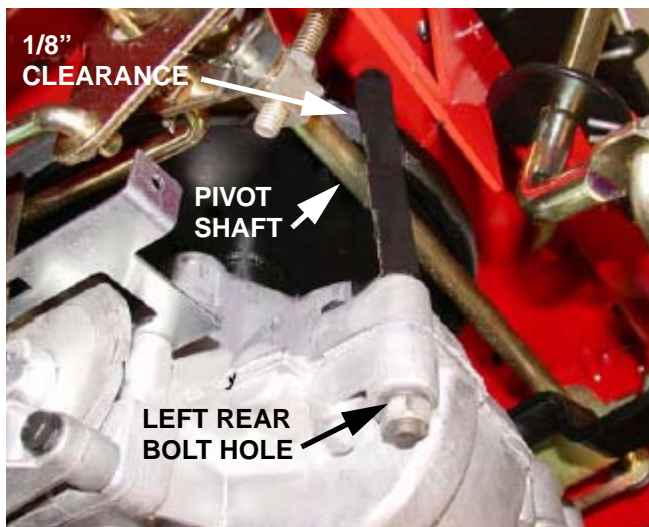

FIGURE 10
13. Position the Belt Guide, Item 11, as shown in Figure 10. Ensure that Belt Guide just clears the pivot shaft and has about 1/8 inch belt clearance.